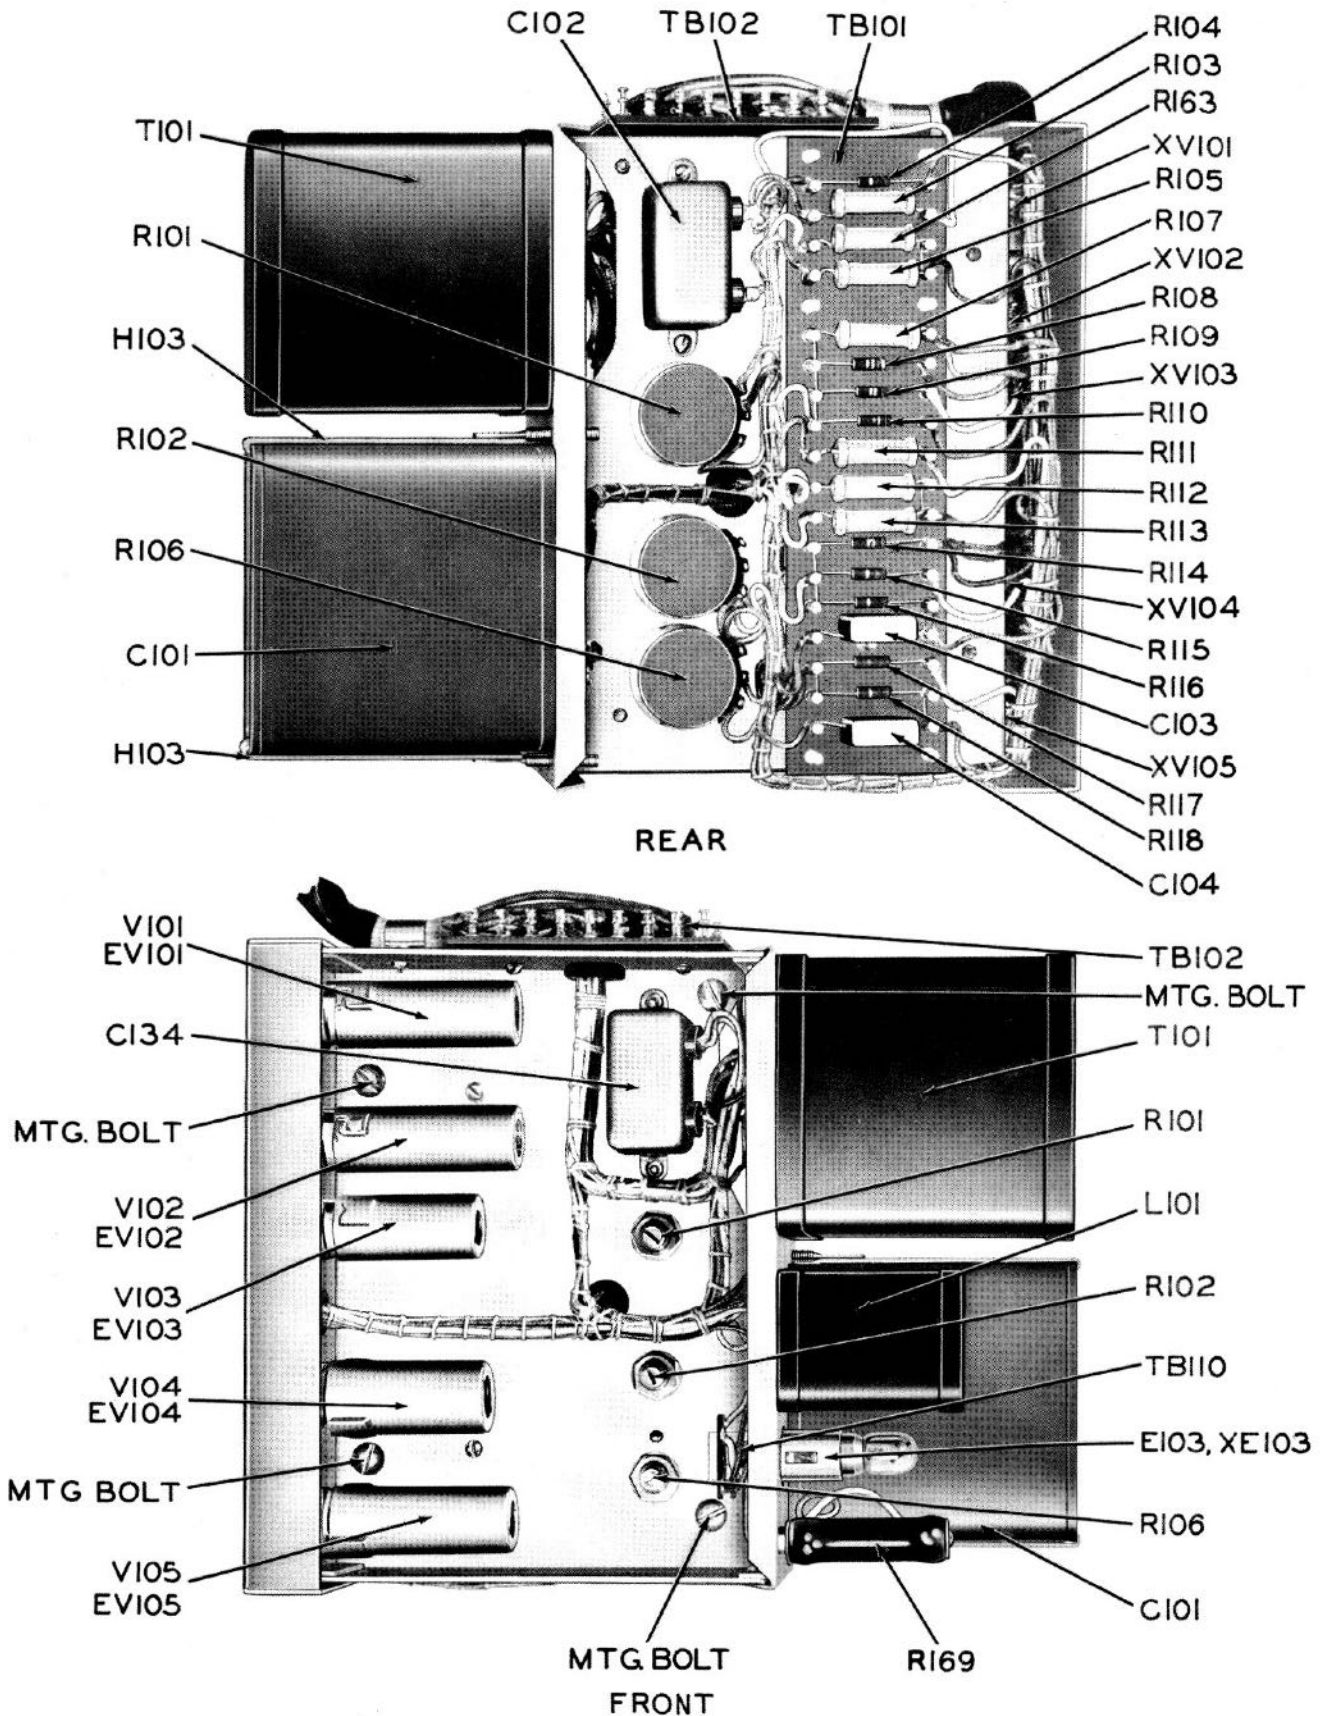

Figure 7-6. RF Signal Generator SG-45A/URM-26, Power Supply
- (4) Lift panel, carefully, straight up.
f. For all servicing, except the replacement of a few units in the power supply, it will be necessary to remove only the panel section from the case. To remove the power supply chassis, release the four black captive bolts whose heads are inside of the power supply chassis (see figure 7-6).
- (1) Turn case so that open side is uppermost.
- (2) Place power supply chassis carefully in place inside case so that mounting bolts can engage in mounting posts.
- (3) Tighten four black captive bolts.
a. Plate voltage is adjusted by means of variable resistor R-101, B+ VOLT ADJ, (see figure 7-6). Prior to making any adjustments the instrument should be operated for a period of 15 minutes to permit circuits to become stabilized. Line voltage should be 115 volts $\pm 10\%$.
- (1) Connect a dc voltmeter, such as AN/PSM-4, between terminals 6 and 13 of terminal TB-102.
- (2) Use screwdriver to adjust variable resistor R-101 so that meter reads 160 volts ± 3 volts.